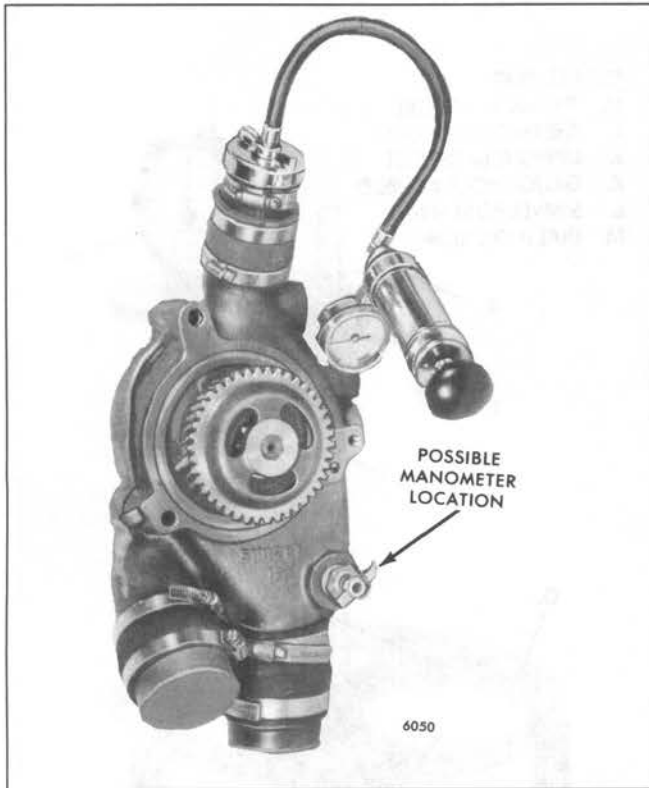

Fig. 4 – Testing Modified Water Pump Housing
10. After the water pump is assembled, it is suggested that an air leak test be performed with a pressure testing kit such as that shown in Fig. 4. Attach the manometer at the water pump drain cock hole, then use the hand pump to raise the mercury manometer to 20 in. or 9.9 psi (68 kPa). If the manometer does not decrease in excess of .2 in. or .1 psi (.68 kPa) in 60 seconds, the pump has met the air leak test criteria. If the pump does not meet this criteria, turn the pump shaft to be sure the seal is not being held off the ceramic and perform the air leak test a second time.